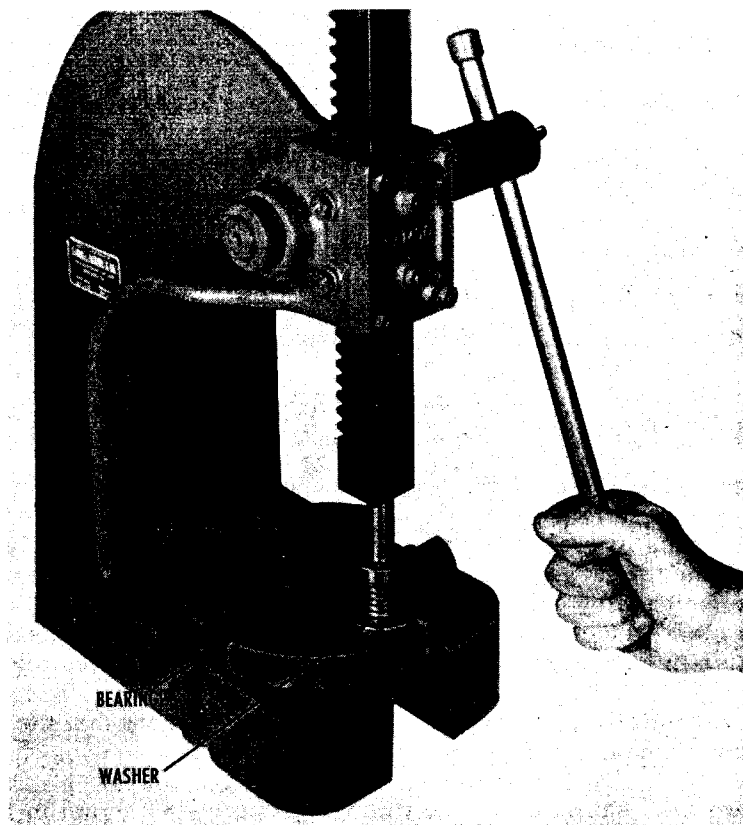

FIG. 12 RIGHT DRIVE SHAFT BEARING INSTALLATION
- 13.8 Place the new bearing in position on the drive shaft. Obtain a steel sleeve about 2 inches long with an inside diameter large enough to fit loosely over the end of the drive shaft which supports the timing belt pulley and an outer diameter no larger than the outer diameter of the bearing inner race. Place a loose-fitting washer on the unthreaded end of the drive shaft. Position the parts in an arbor press as shown in Fig. 12 and press the bearing onto the shaft.